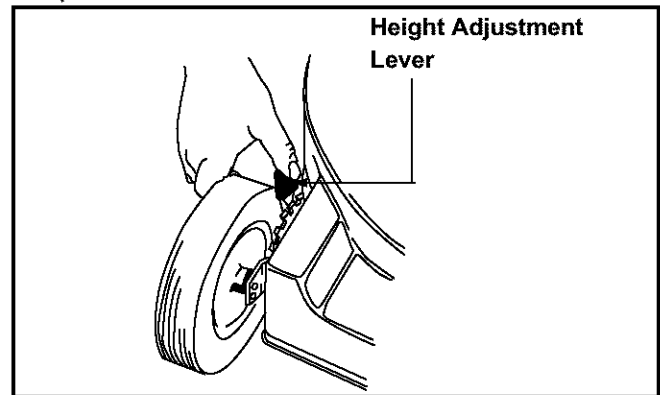

Figure 15
- Simply depress the lever towards the wheel and move the lever assembly to desired position. See Figure 15 .